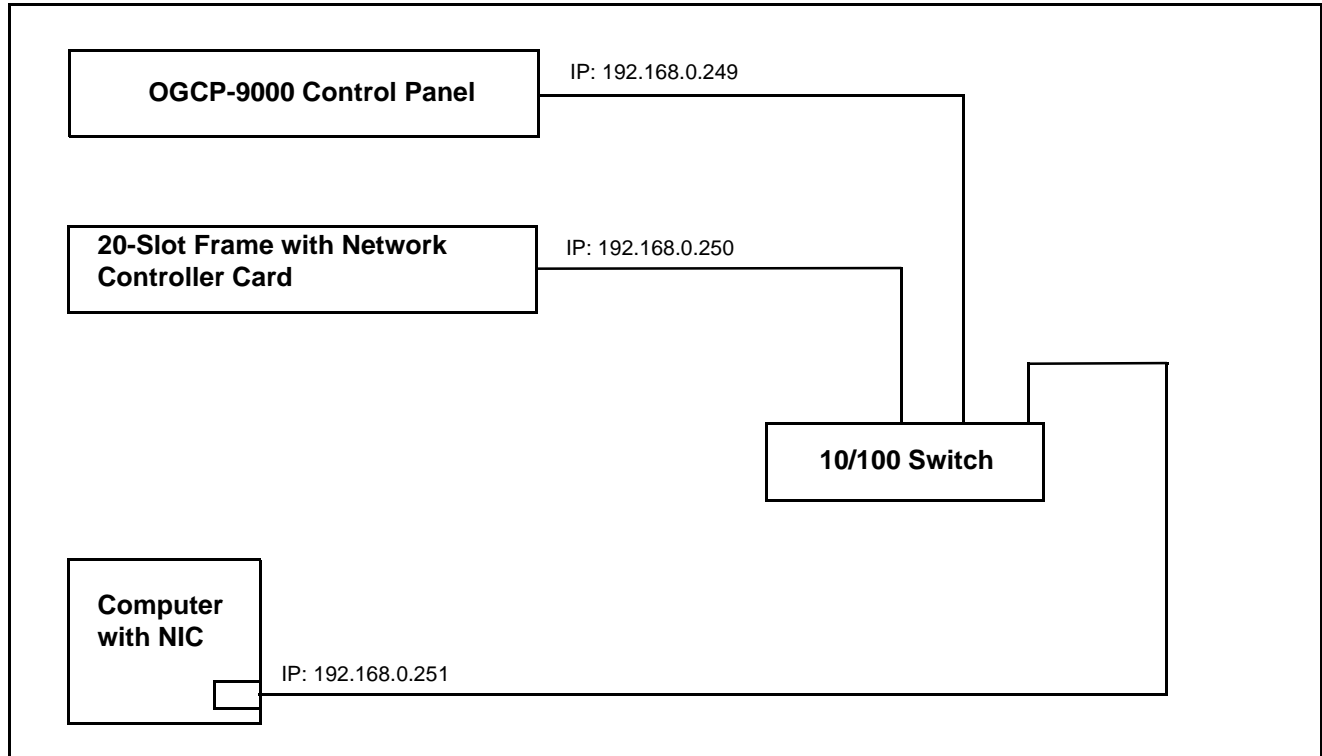

Figure 2-2 Example Control Panel LAN Interconnections
1. Using a CAT5 RJ-45 jumper cable (not supplied), connect the **ETHERNET 10/100** connector to the Ethernet switch that links the Control Panel to the LAN. Figure 2-2 shows an example LAN interconnection used with the Control Panel and a frame equipped with a required optional Network Controller Card (Cobalt PN MFC-8320-N or equivalent).